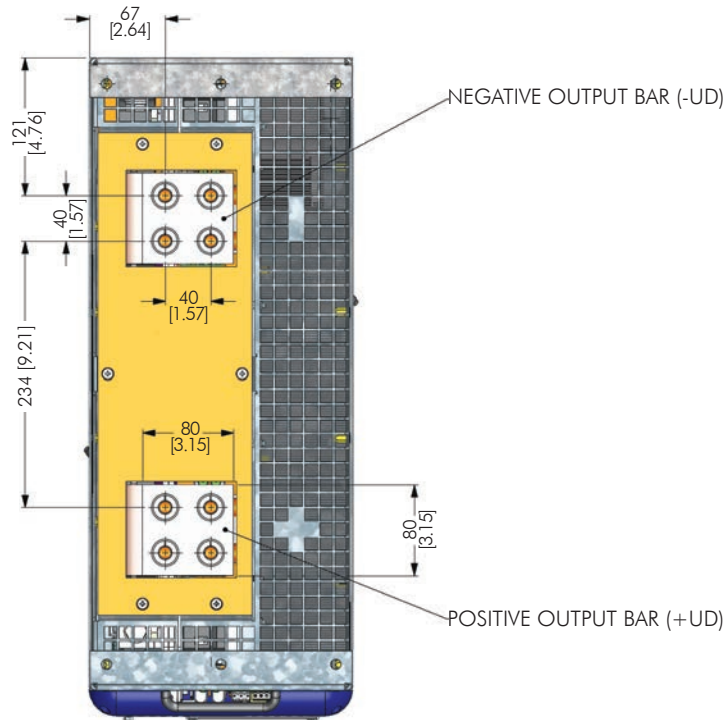

Figure 3.14 - UR11 output bus bar, DC connections (mm [in])
The fastening of the UR11 output connections is done with four M12 x 25 bolts (tightening torque: 60 Nm), as presented at figure 3.14. Refer to item 3.4.2 for more information.